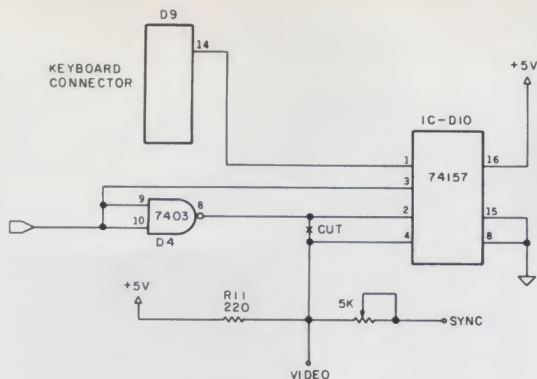

Fig. 2. Reverse video circuit.
selector that routes the video signal directly to the mixing circuit or bypasses one buffer and then routes the video signal to the mixing circuit (see Fig. 2).
2. Run four wires from IC socket D10, pins 1, 2, 3 and 4 to ICD9 socket, pin 14; ICD4, pins 8 and 10; and to R11 (see Figs. 2 and 3).